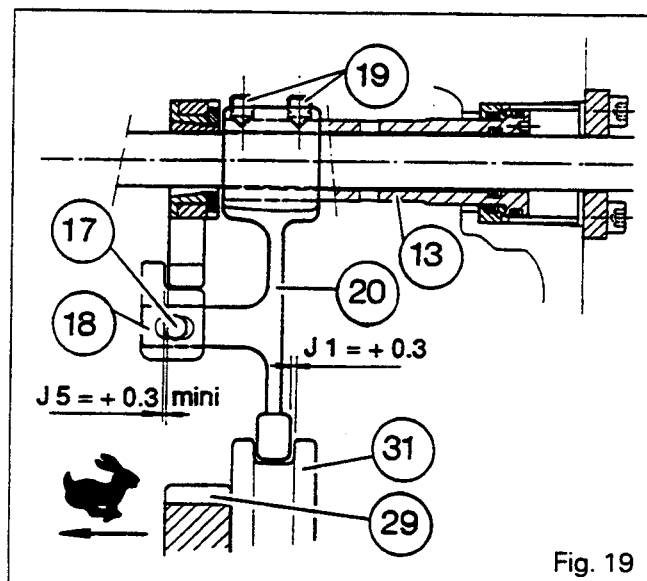
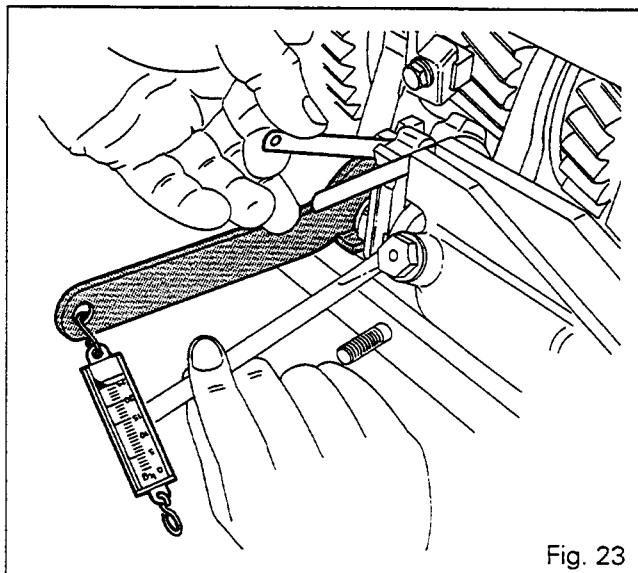

Fig. 19
Fig. 23
76. Hold the synchromesh against the high range gear (29). (See Fig. 19).
77. Adjust the position of the fork (20) by acting on the two adjusting screws (19) after cleaning them with solvent and coating them with Loctite 221, in order to obtain a play of **J1 = 0.3 mm** between the rear face of the pad and the synchromesh slide rod (Figures 19 and 20).
84. Tighten the castellated nut (21) to a torque of 50 Nm using a spanner 3615334 M1 and a spring scale (Fig. 23).
85. Apply Loctite 648 on the tightening face of the slider (18) and Loctite 241 on bolt (17). Fit the washer and the bolt.
86. Adjust plays J5 and J6 (min. = 0.3 mm) evenly between the slider and the lock in the Hare and Tortoise positions (Figures 19 to 21 and 24).